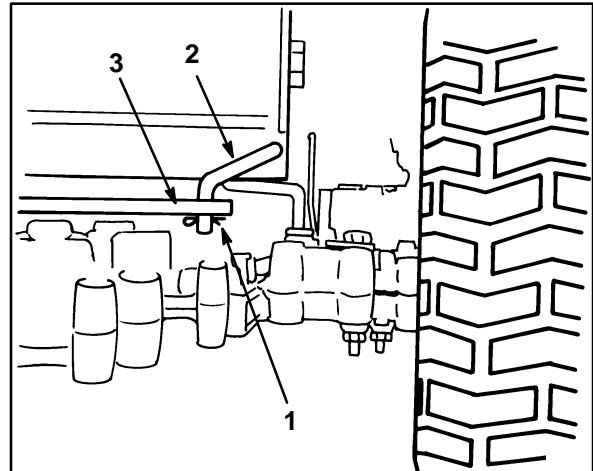

Figure 38
1. Remove cotter pin from rod on right side of transaxle as viewed from the rear of the unit (Fig. 38).
2. Lift rod out of bracket hole (Fig. 38).